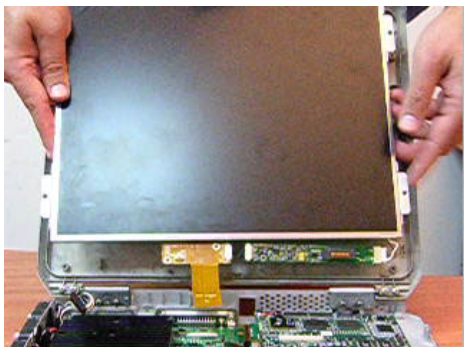

Figure 8-64 Removing the LCD Display
- 6.) Using both hands, carefully lift the LCD Display upwards and remove it from the Rear Cover & Latch Assembly, as shown in Figure 8-64 below.
- 1) Using both hands, carefully lift the replacement LCD Display into position on the Rear Cover & Latch Assembly (refer to Figure 8-64).